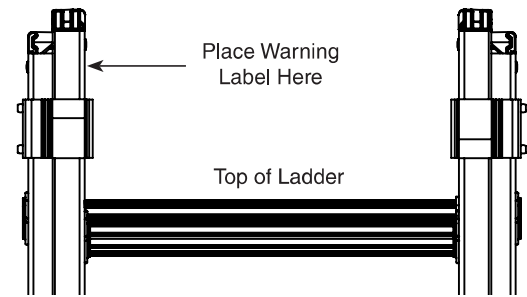

Fig. 9
- Add warning label to the top inside fly section ladder rail. (Fig. 9)